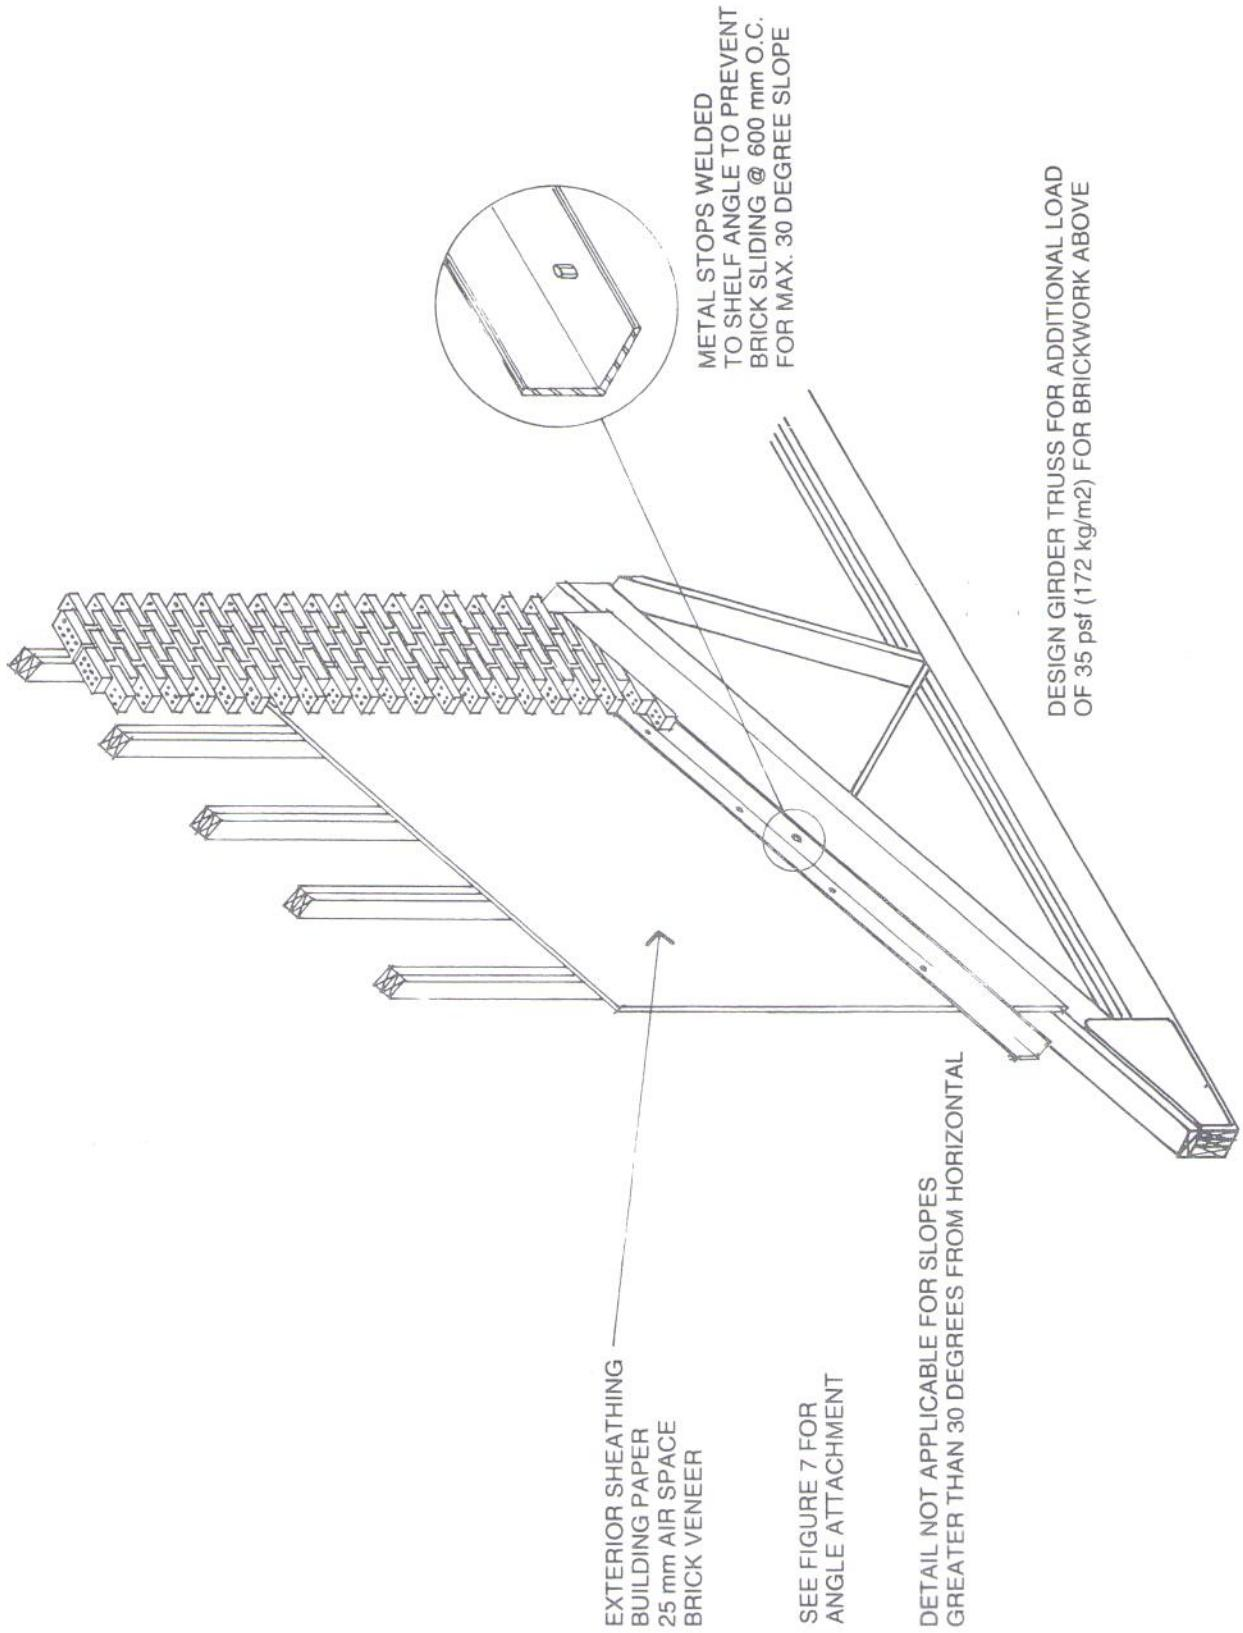

Figure 6 Section through brick veneer supported by truss (typically over attached garages)
- Figure 6 Section through brick veneer supported by truss (typically over attached garages)